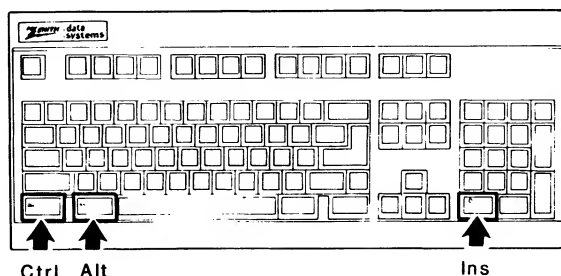

Figure 1-6. Resetting to the Monitor Program
1. Refer to Figure 1-6. Press the CTRL (control), ALT (alternate) and INS (insert) keys in sequence. Hold them down briefly, then release them. This is what is known as a "soft" or "warm" reset.